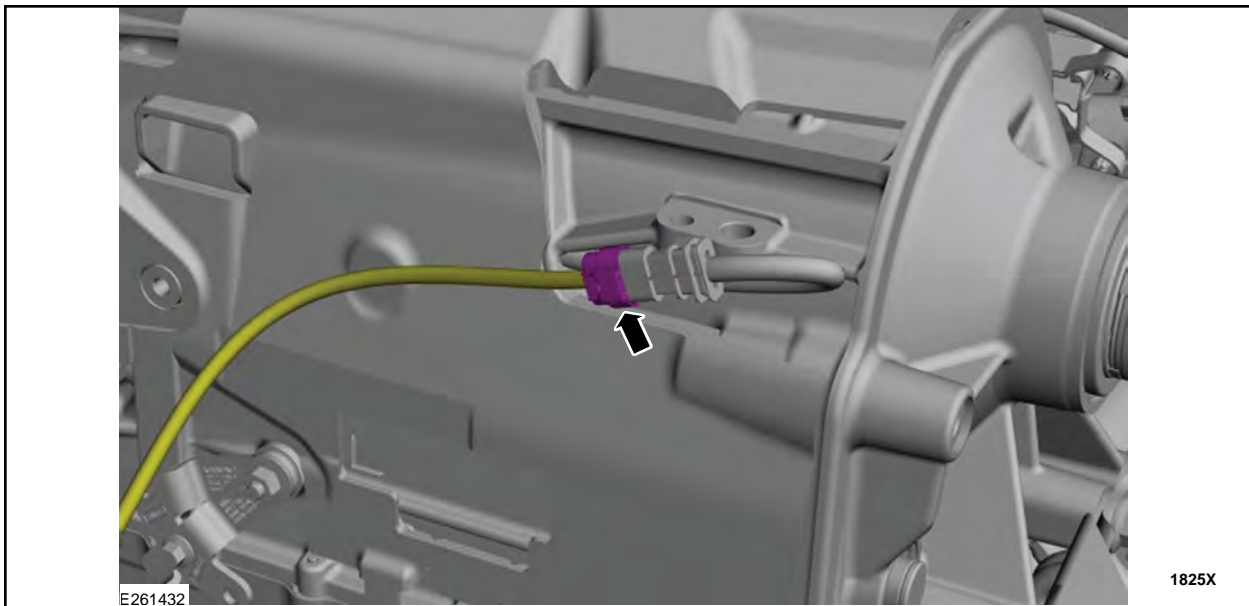

FIGURE 15
31. Disconnect the HO2S electrical connector. See Figure 15.